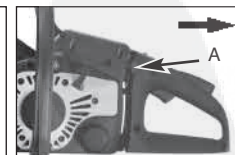

Fig. 9B
2. Pull choke lever/throttle (A) advance. This sets choke and advances throttle for easier starting. (Fig. 9B)